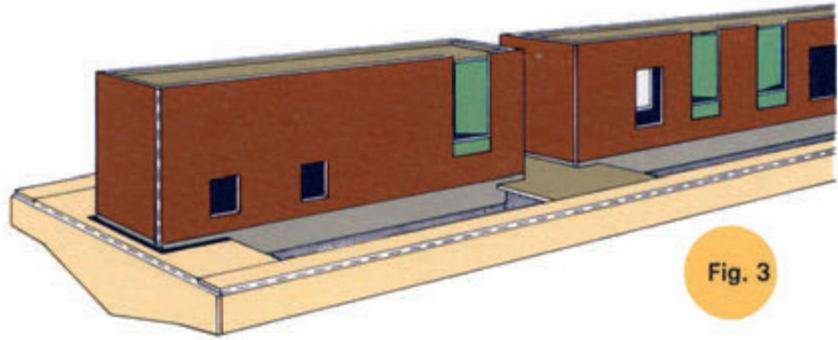

Fig. 3
- ③ Place the AWNING upside down and attach the two WAITING ROOMS, the white arrows on their ceilings pointing outwards (Fig. 3).